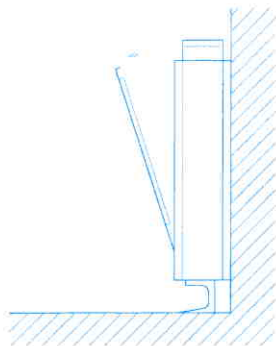

Fig. 3
- 10.- Refit the inner front panel. If the bricks have been fitted correctly you will find no difficulty in refitting the panel (Fig. 3).